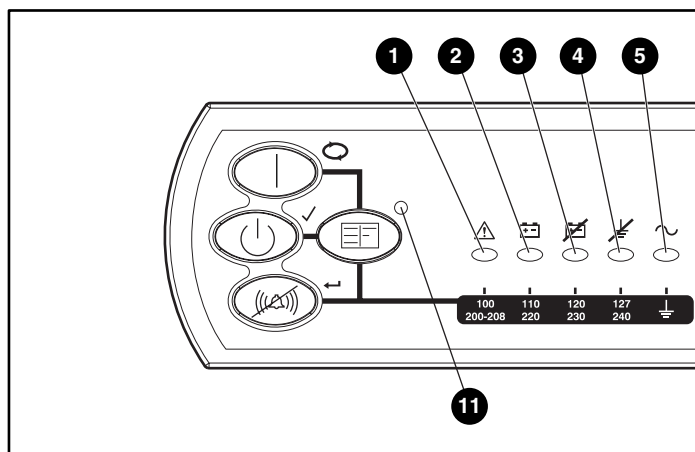

Figure 4-3. The front panel configuration parameters and LED indicators
1. To place the UPS in Configure mode, press the Configure button (❹) until the Configure mode ON LED (❺) turns solid green.
**NOTE:** For nominal voltage configuration parameters 1, 2, 3, and 4 (see Figure 4-3), selecting an ON value for any one parameter automatically sets the other three possibilities to OFF.